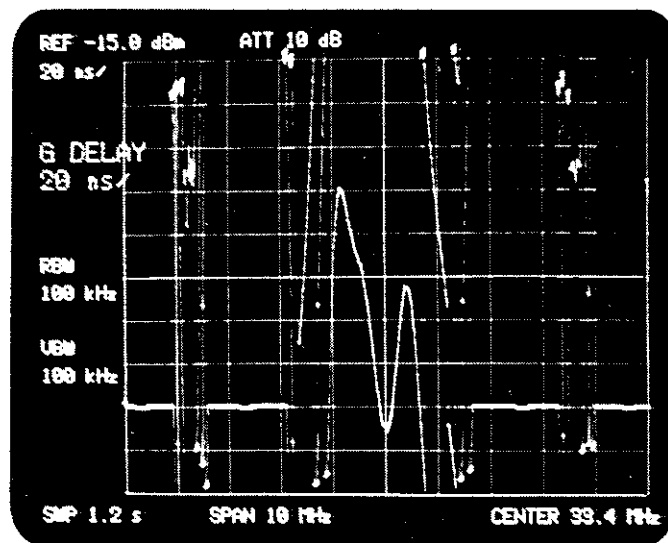

Fig. 7-9 Group Delay Measurement
- (11) As described above, if the phase resolution is increased to increase the group delay resolution of the filter's passband to enable observation, the phase may overflow the passband. If phase overflow occurs, press the DELAY OFFSET key to enable adjustment of the group delay offset, and then adjust the phase slope within the passband by turning the DATA knob.
- (12) Group delay can be measured by pressing the GROUP DELAY key. (See Figure 7-9.)